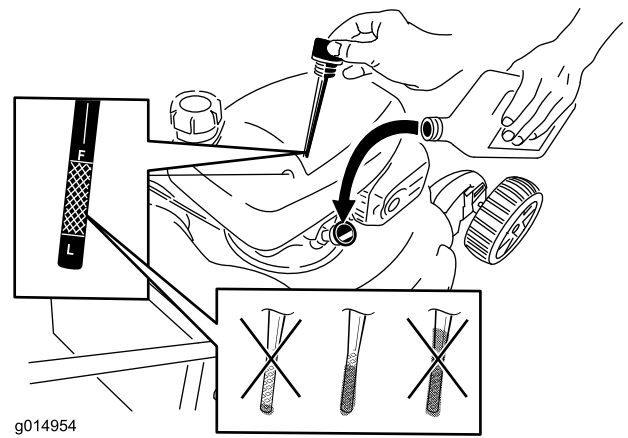

Figure 6
5. Remove the dipstick and read the oil level on the dipstick; refer to Figure 6.
- If the oil level is too low, add a small amount of oil slowly to the oil-fill tube, and then repeat steps 3 through 5 until the oil level is correct as shown in Figure 6.
2. Remove the dipstick (Figure 6) and pour about 3/4 of the crankcase capacity of oil into the oil-fill tube.